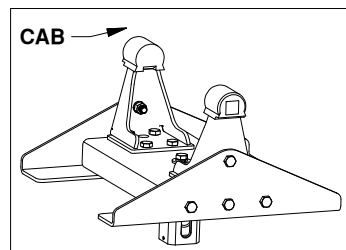
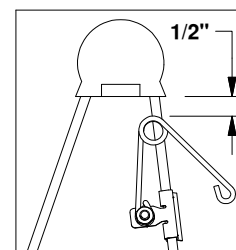

Figure B3: Base View.
Figure B4: Driver side pivot arm.
2. Locate the flange which will be closest to the truck cab on the driver side pivot arm, see Figure B3. The clip should be placed so that when the springs coil is in the line with the edge of the arm there will be 1/2" of clearance between the bottom of the rubber bumper and the top of the spring, see Figure B4. Drive the clip securely onto the flange with a hammer.